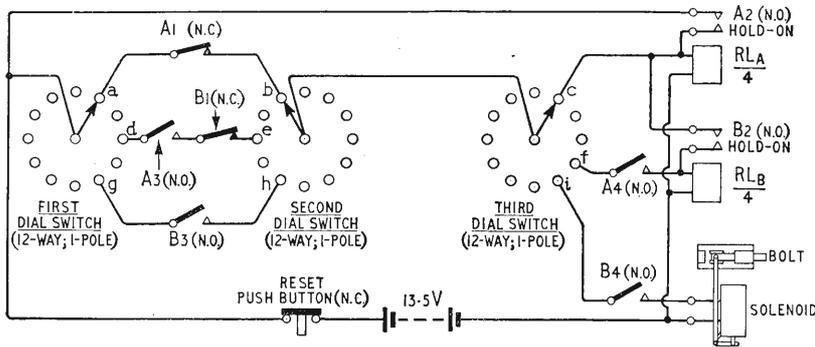

Fig. 2. Circuit diagram of the lock.
**Principle of Operation.**—The circuit diagram of the lock is shown in Fig. 2. When the dials are set to the first 3-digit number, which we will call *a.b.c.*, the 12-way 1-pole wafer switches mounted behind the dials allow current from the battery to pass to the coil of  $RL_A$  via the first pair of contacts of that relay which are normally closed (designated contacts A1 (N.C.)). This relay then operates, and its second pair of contacts A2 (N.O.), which are normally open, close and allow current from the battery to reach the coil of  $RL_B$  so that this relay is kept energized or "held-on." At the same time, contacts A1 (N.C.) open so that the original current path via *a.b.* and *c.* is broken. In addition, the
It will be seen from the circuit of Fig. 2 that each of the relays has three normally-open contacts, and one normally-closed. Since the current which initially energizes the coil flows through the normally-closed contacts of that coil it is clear that these and the normally-open "hold on" pair should form a make-before-break combination if the relay is to hold satisfactorily. This is most easily arranged by using two sets of the more usual make-before-break changeover contacts as illus-